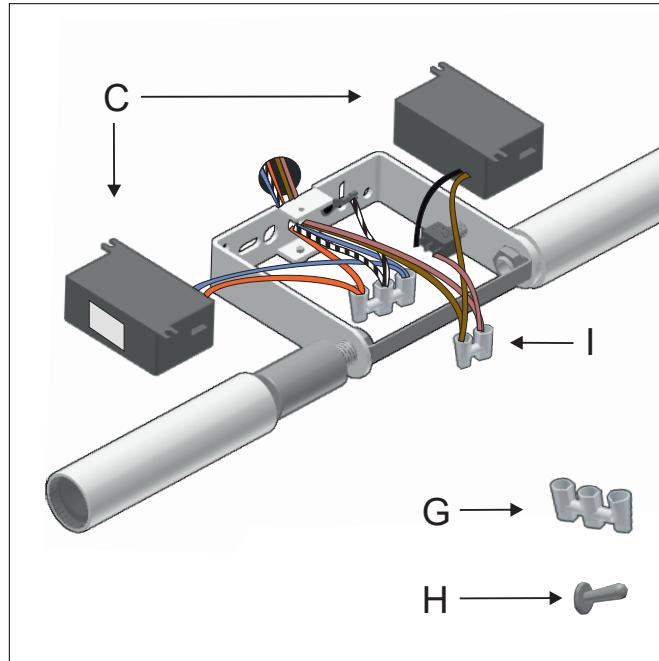

Figure 4A
4 - Connect the network cables to the corresponding forbox respecting the connections that join the drivers [C] with the forbox and the push button [H]. Each light spot that comes from the wall has its own forbox to make the connections. The ground cable is connected to the input of the forbox (G) that contains the green and yellow cable. It must be kept in mind that the inversion of the phase and neutral cables does not imply any change in the operation of the electric current. Figure 4A.